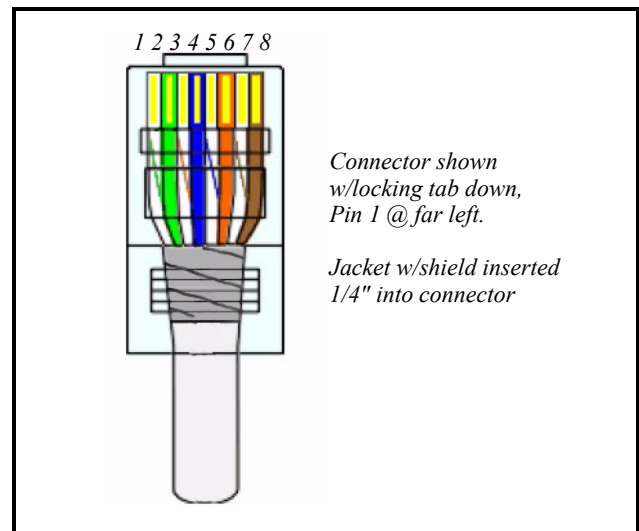

Figure 4-4 - CAT5e Cable End Loaded Into Connector
3. Hold the connector in front of you with the locking tab down. Orient the wires so connector pin 1 aligns with cable pin 1, etc. (Pin 1 is on the far left). Slide the wires into the CAT5e connector. The cable jacket should extend into the connector about 1/4" for strain relief (**Figure 4-4**).